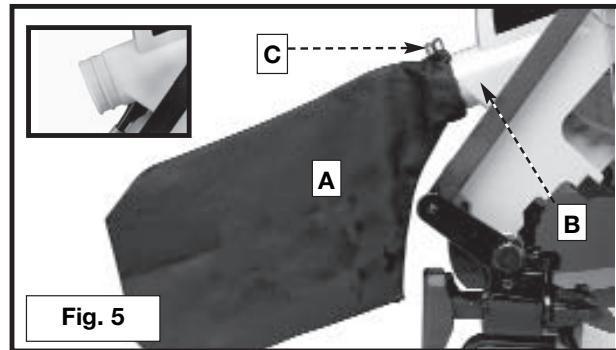

Fig. 5
Attach the dust bag (A) Fig. 5 to the dust spout (B) making sure the wire ring (C) is engaged with the ridge in the spout (see inset).